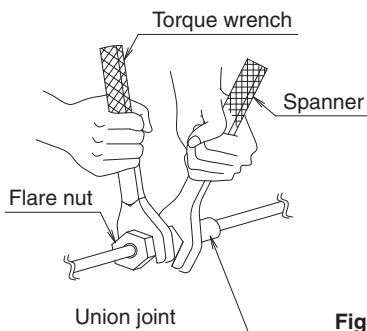
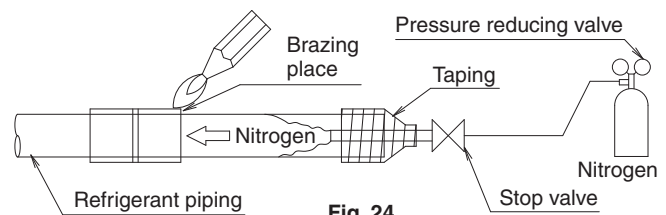

Fig. 21
Fig. 24
- When connecting the piping to the air conditioner, make sure to use a spanner and a torque wrench as shown in Fig. 21. For the dimension of flared part and the tightening torque, refer to the Table 1.
- Before brazing refrigerant piping, have nitrogen flow through the refrigerant piping and substitute air with nitrogen (NOTE 1). (**Refer to Fig. 24**) Then, carry out brazing (NOTE 2). After all the brazing works are finished, carry out flare connection with the indoor unit. (**Refer to Fig. 21**)